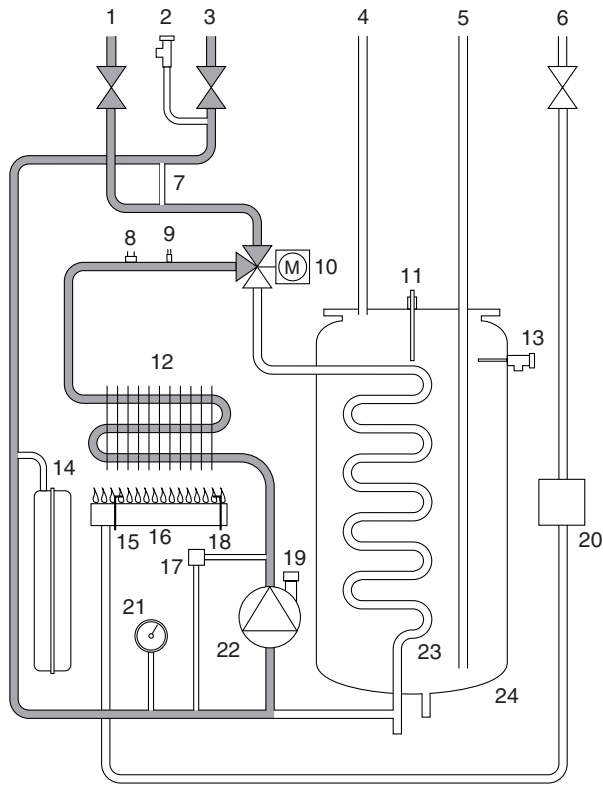

Fig. 4
3. Central Heating Mode (Fig. 4)